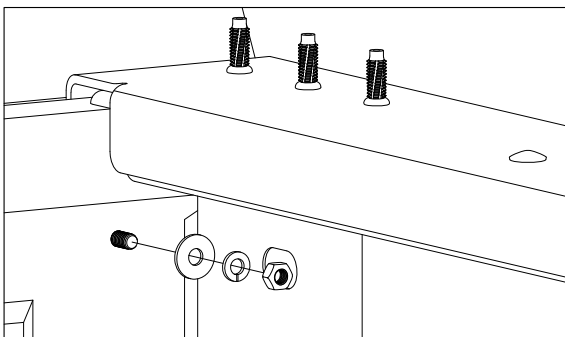

FIGURE A5: PASSENGER SIDE OF BED
7. **Install forward bolt connection.** From the gap between the bed and the cab insert a 5/16" X 3/4" Carriage bolt into the Bed Protector and secure using a flat washer, lock washer and finish nut, as shown in figure A5. Do not fully tighten hardware at this time.